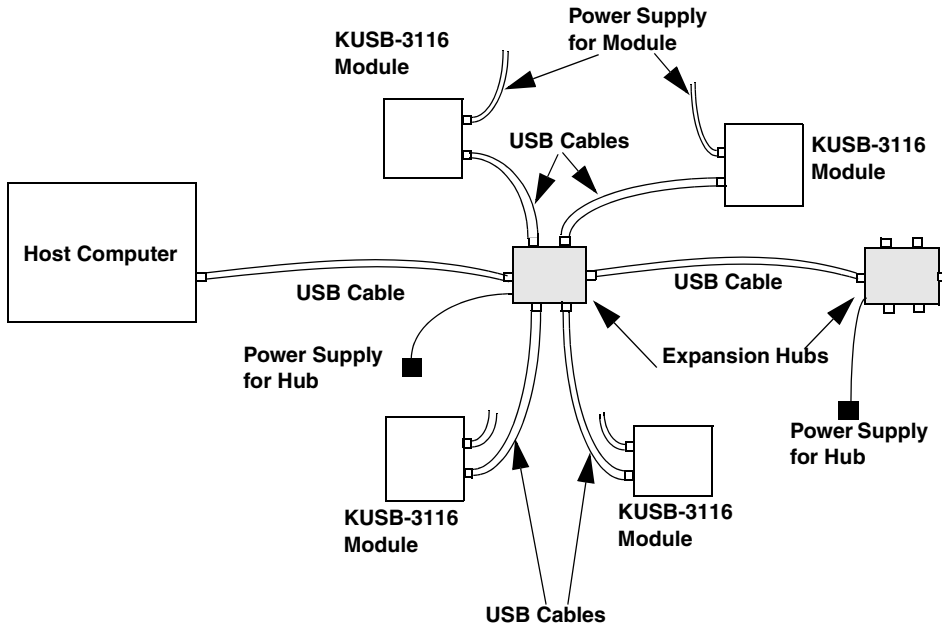

Figure 4: Attaching Multiple KUSB-3116 Modules Using Expansion Hubs
5. If you have previously installed the device driver, ignore the remaining steps, and repeat steps 1 to 3 until you have attached the number of expansion hubs (up to five) and modules (up to four per hub) that you require. Refer to Figure 4.